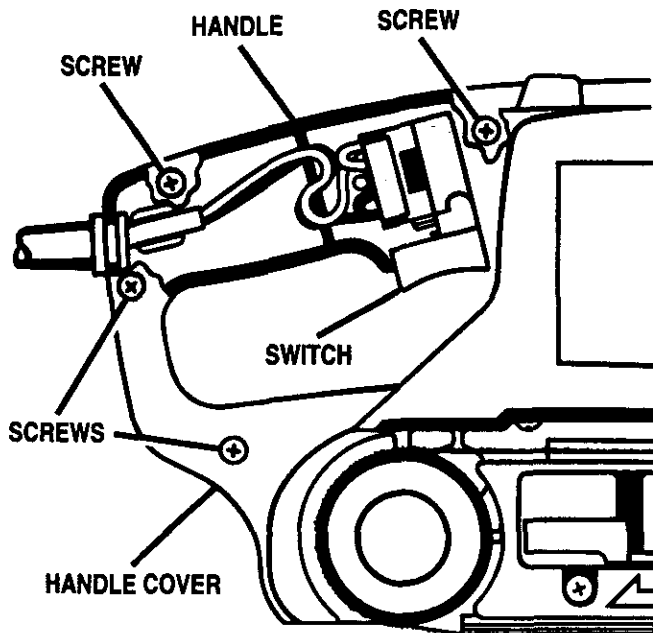

Fig. 13
See Figures 13 and 14.
- Remove the handle cover screws and handle cover. Note the locations of all wiring in the handle and how each connection is made to the switch. Connections and wiring position must be identical when installing new switch. See Figure 13.
- Arrange the wiring in the handle so that it will not be pinched or contact screws when the handle cover and screws are replaced, then position the switch in place. See Figure 13.